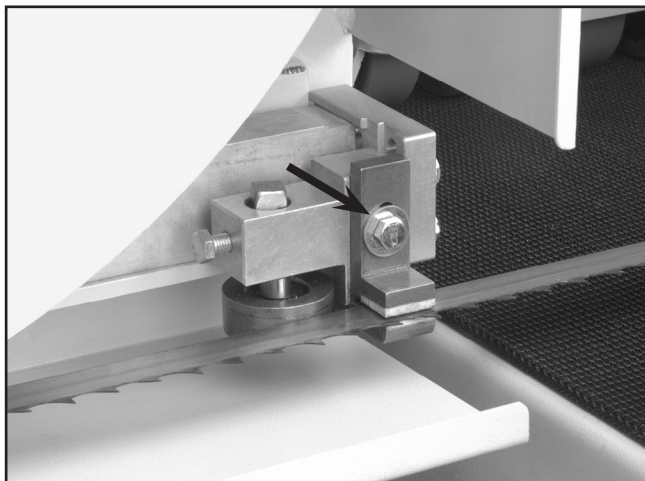

Figure 17. Guide block adjustment bolt.
1. Loosen the guide block adjustment bolt shown in **Figure 17**.